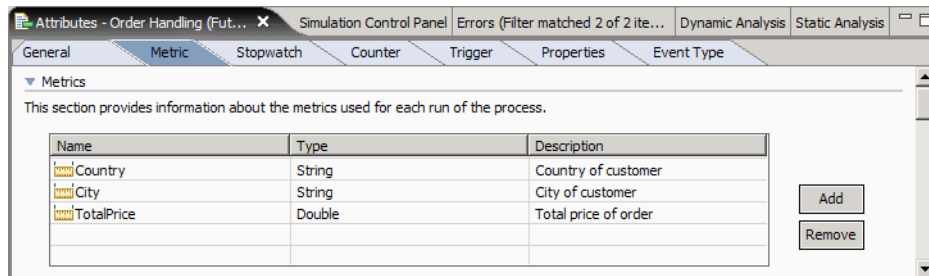

Figure 8-25 Creating metrics for dimensional analysis
- ▶ Click *Add* twice to define two metrics and overtype the names with Country and City. Set the type to String and enter a description (Figure 8-25).